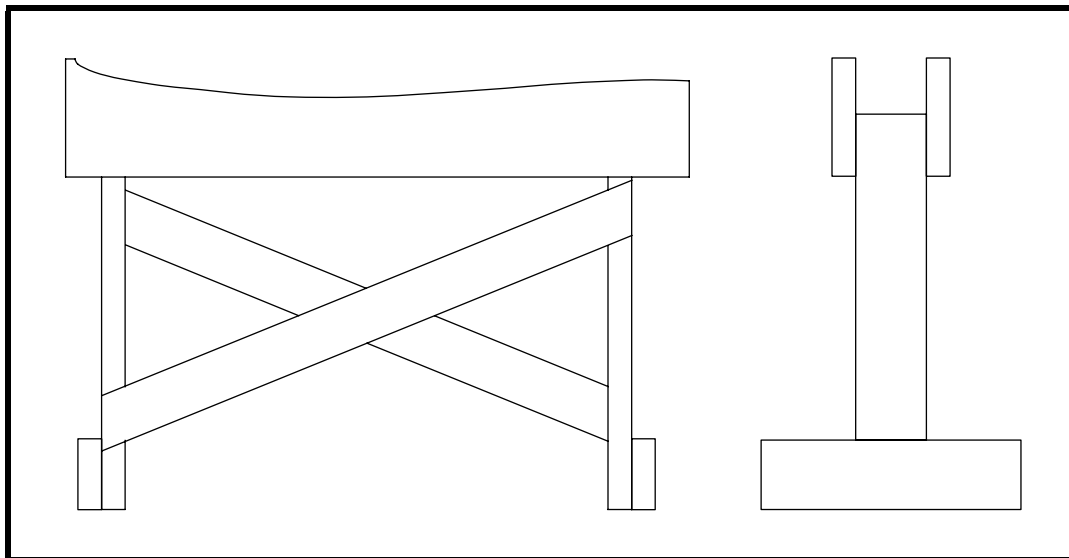
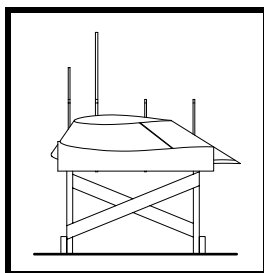

Figure 2
Figure 3
- ❑ Assemble the four supports with additional lumber to make the wing supports as shown in Figure 2. The fuselage W.L. 0 should be about 1280mm above the floor level to provide room to swing the nose gear up, although the exact height is not critical since the nose gear can be compressed. The inboard support must be slightly lower than the outboard support. Install additional diagonal supports as shown in Figure 3. Cover the top of the supports with something soft—carpeting, old blankets—to protect the bottom of the wing.
- ☐ Place the wing in the two supports as shown in Figure 3. Level the wing assembly. The supports may be moved in and out to raise or lower the wing.